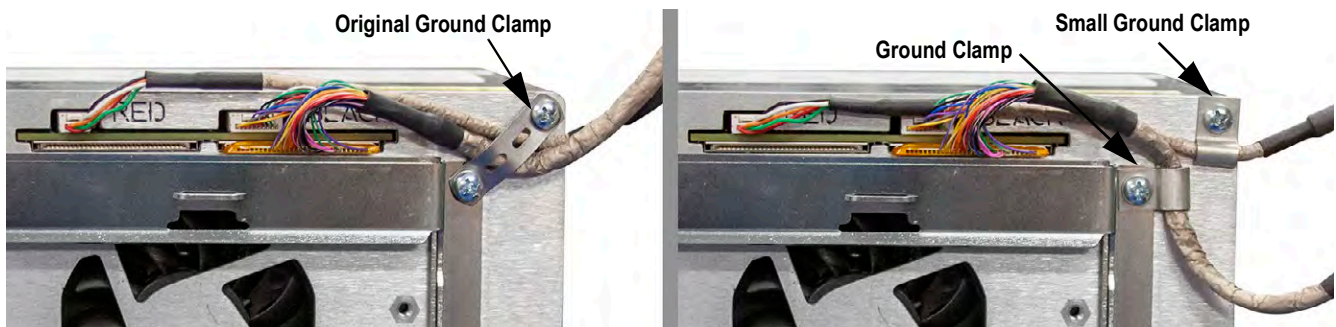

Figure 2-19. Controller Box Shield Grounding
7. Remove the original ground clamp used on both the display and touchscreen cables, see Figure 2-19 on page 24.